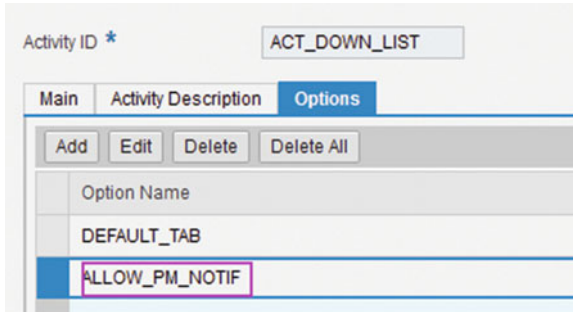

Figure 8-2. Activity configuration: PM notification option
3. You can choose to create the PM notification when you are reporting downtime. To get these notification details in the Report Downtime dialog, you need to add the option ALLOW_PM_NOTIF to the ACT_DOWN_LIST activity. Refer to Figure 8-2.